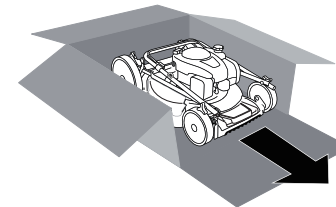

Fig. 2
1. Cut down two end corners of the box (Fig.2) and lay the end panel down flat.